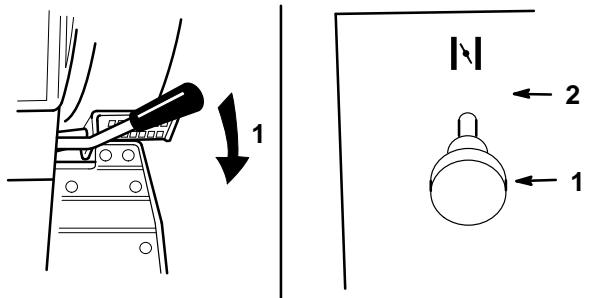

Figure 4
3. Move the PTO (power take off) to disengage (Fig. 4).
5. Move the choke lever to "ON" (Fig. 4).